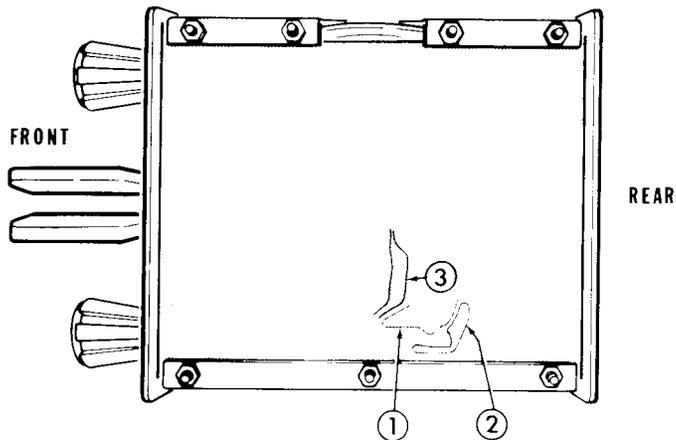

Figure 2
- () Refer to Figure 2 and touch the ohmmeter probe to a solder connection at point 1. The meter reading should be 10 k Ω or higher.